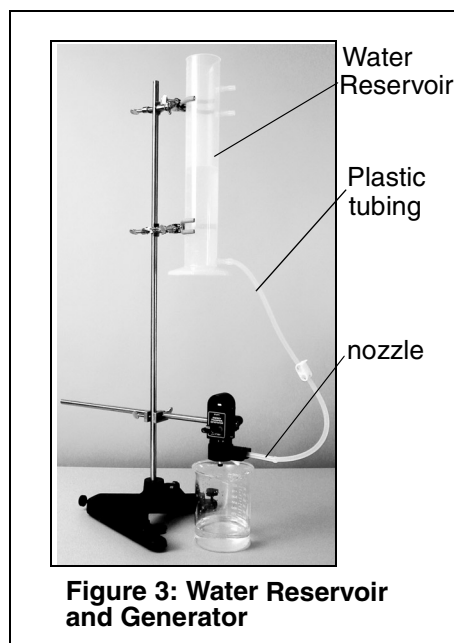

Figure 3: Water Reservoir and Generator
5. Connect the nozzle to a piece of tubing connected to an external water supply. (See section below and Figure 3).
1. Connect a tube from the bottom hose fitting of the Water Reservoir to the nozzle on the ET-Hydro Accessory (Figure 3). Clamp the tube.